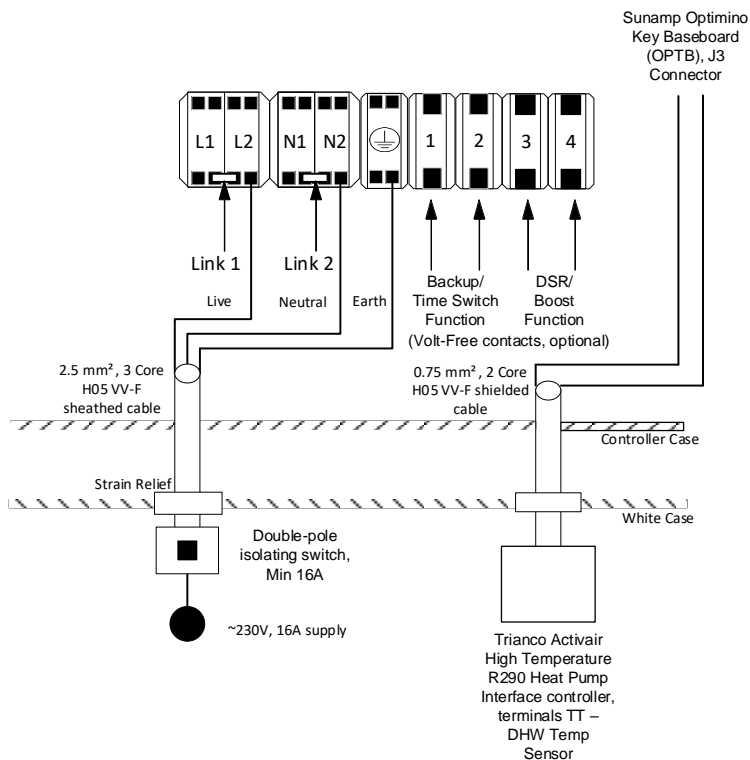

Figure TO.1 – Thermino xPlus with T001 Optimino Key
- Thermino xPlus with the “TO01” & “TO02” Optimino Keys (D0084 – Section 6.3.2 for wiring instructions & Figure TO.1 below)
Using a 2-core shielded cable 0.75mm2, the cable will act as a hot water heating tank sensor from the Sunamp Optimino Board (OPTB) – terminal J3 into the Heat Pump Interface controller PCB Terminal – (TT – DHW Temp Sensor) (please refer to HP installation manual). Please run the wire into the Heat Battery appliance via the appliance case cabling grommets and then into the control box housing through the hole available. Secure the cables in terminals J3 on the Optimino Board J3; please see Figures TO.1 & TO.2 below for reference.